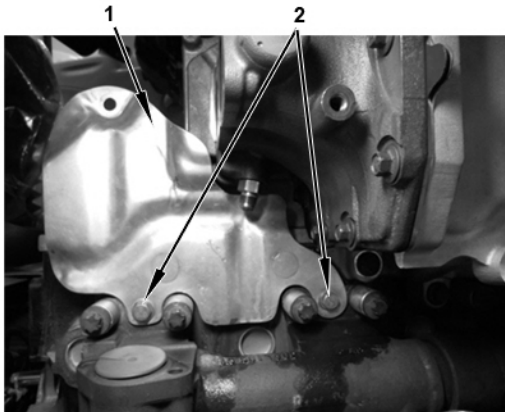

Figure 19 EGR Heat Shield
24. Remove EGR heat shield (1) and remove two bolts (2) (Figure 19).